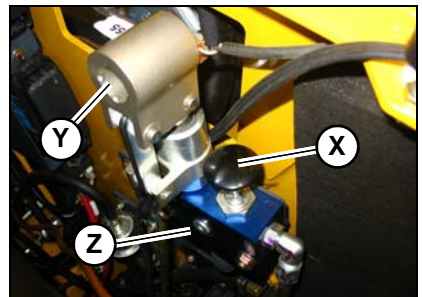

Figure 56 – Parking Brake Release Option
1. Locate the brake release jack (Z, Figure 56) and handle. Depending on your particular model, it may be necessary to remove covers and/or open the rear door of the machine.
2. Position the brake release receiver (Y) and insert the jack handle.
3. Push down and hold the plunger (Z) against the brake release.
4. Jack the brake release to build pressure. As pressure builds, plunger (X) stays down and no longer needs to be held.